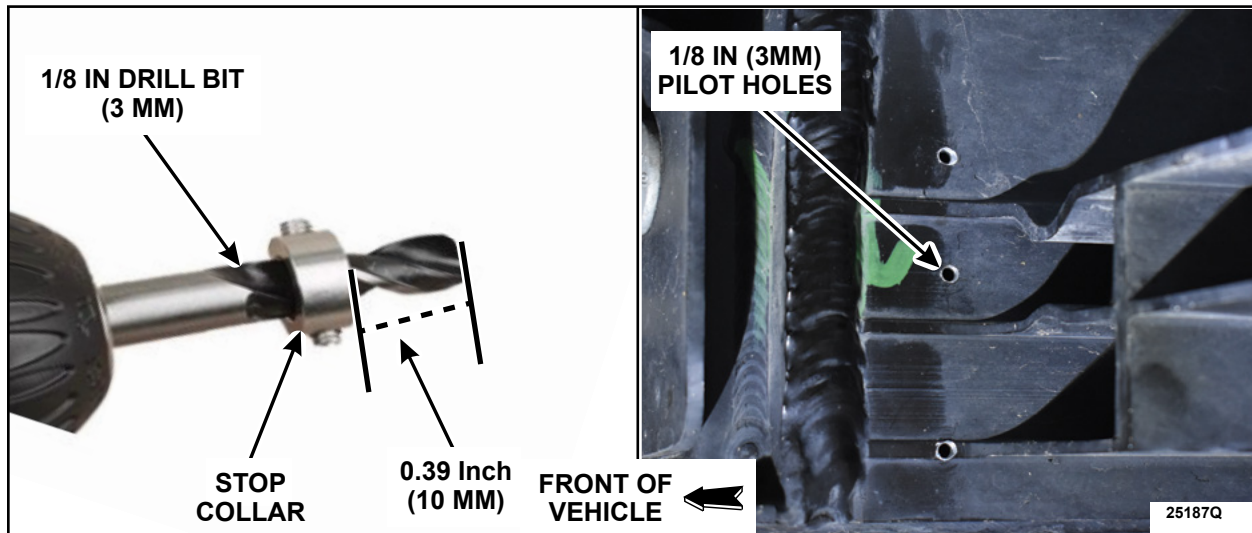

FIGURE 18
6. Using a 1/8 in (3mm) drill bit, apply a stop collar at a depth of 10 mm (0.39 in) and drill out the marks of the center punch. See Figure 18.